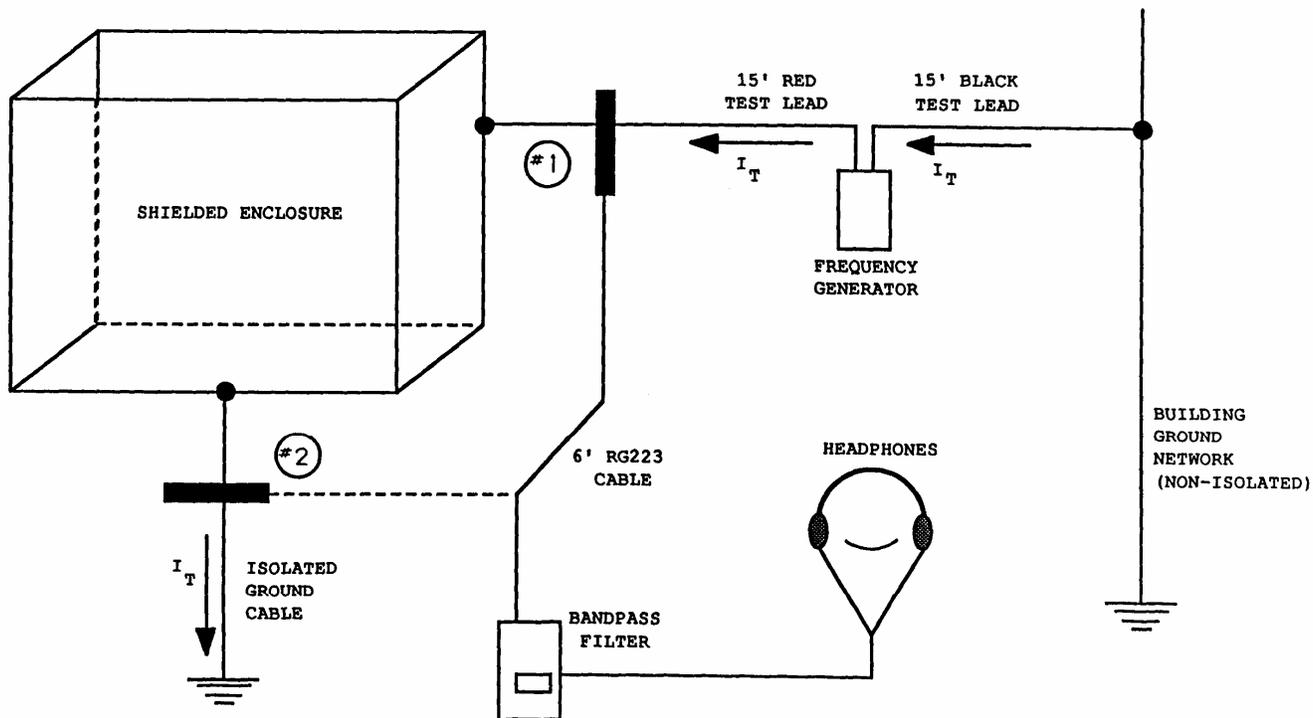

Figure 1
2.3.1 Using the test leads provided in the transit case, connect the Transmitter as illustrated in Figure 1. The Transmitter contains a 10 ohm resistor and has a sinewave output of approximately 3Vpp when the LEVEL control is rotated to approximately 2/3 it's full clockwise position. To reduce the current during the set-up procedure, insert a resistor (ex. 100 ohms) in the current path. When the Receiver is set-up using a smaller current, it will be more sensitive to higher resistance alternate paths. After the set-up and ground cable test procedures are completed, remove the series resistor. Using this technique, if a low resistance path is detected while testing the shielded enclosure, the detected field will probably overdrive the LCD display and a very loud tone will be heard in the headset. Turn the level control down as needed and then return it to its calibrated position to regain sensitivity and continue the search.
- a. Position the magnetometer to position #1 as shown in Figure 1.
2.4.1 Place the magnetometer to position #2 as shown in Figure 1. The magnetometer should be perpendicular to the isolated ground cable. Note the Receiver meter reading.